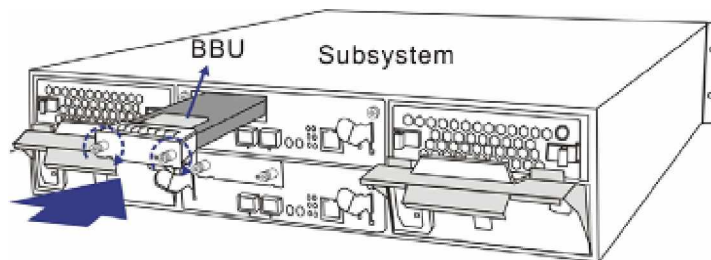

Figure 5-10: Installing the BBU
Step 3. Secure the BBU to the subsystem by fastening the two (2) retention screws on the back of the BBU. (See **Figure 5-10**)